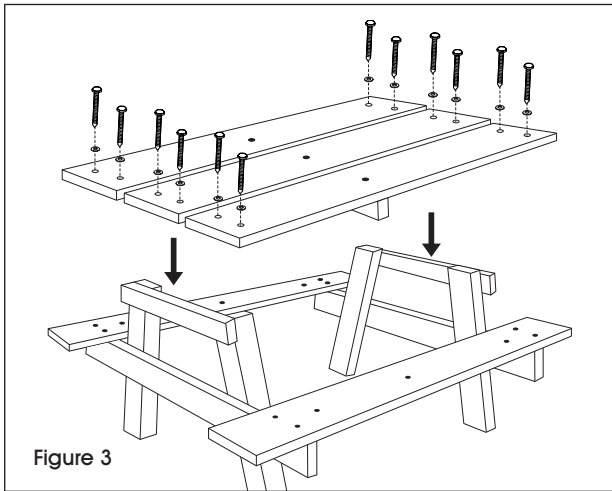

Figure 3
6. Place the three tabletop boards on the A-Frame bases. Align the pre-drilled holes with the A-Frame base. Loosely attach tabletop board slats to A-Frame base with the 3½" lag screws and washers using the power drill and 7/16" socket bit (will tighten later in step 8). (See Figure 3)